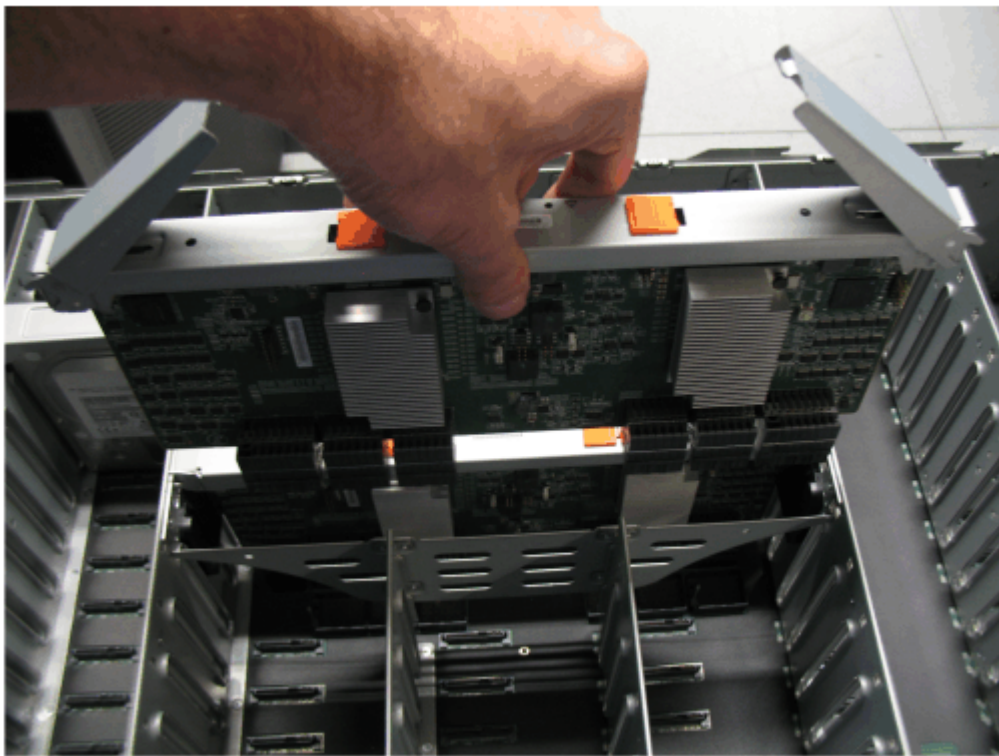

Figure 78. Replace the secondary expander module
4. Align the edges of the secondary expander module carefully in the guide slot in the enclosure, as shown in Figure 78 on page 68.